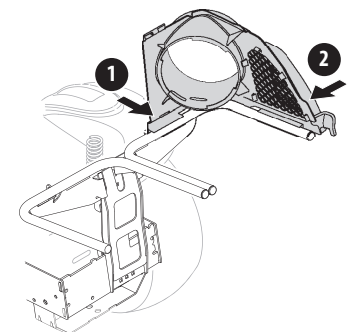

Figure 8
1. Tilt the front of the upper chute support slightly forward. Slide the clip behind the tab, then snap the front latch to the rail, as shown in (1) of Figure 8.
2. Snap the upper chute support in place by first clipping the side portion onto the hanger assembly rail. See (2) in Figure 8.